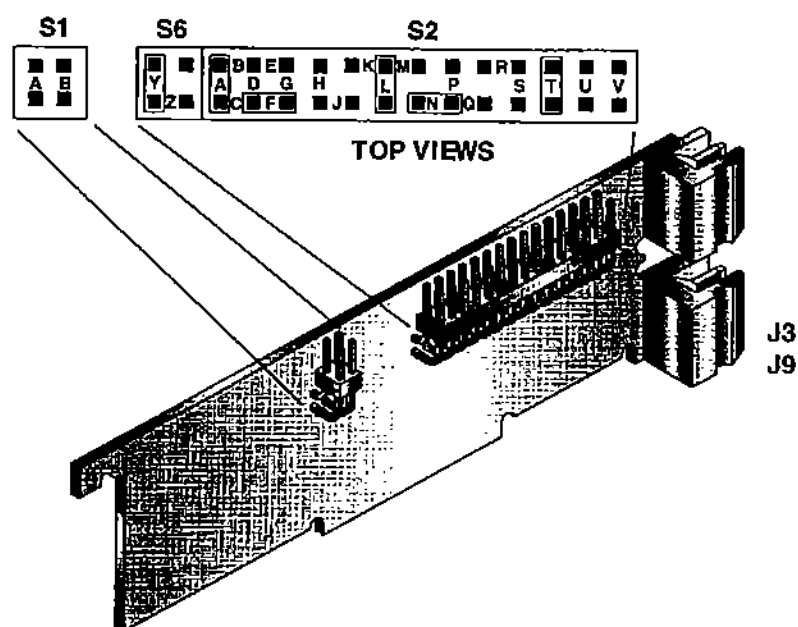
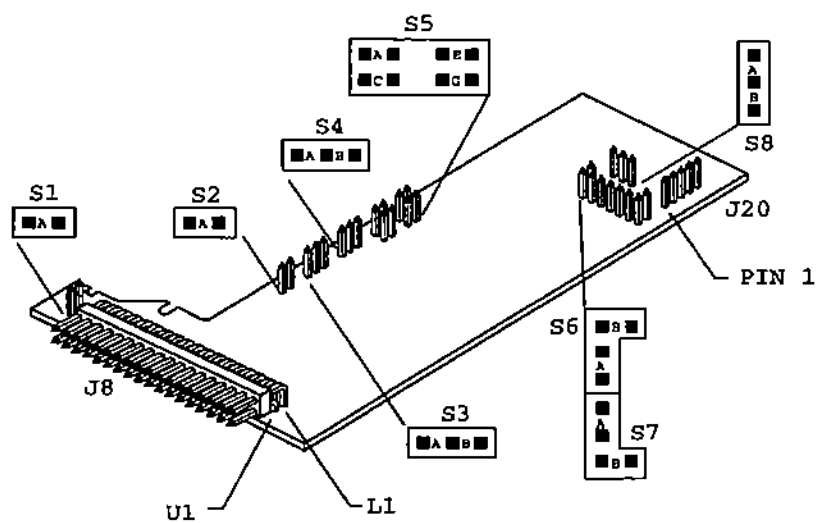

Figure 5-5. Signal Input Board
Figure 5-7. BCD Option Board
Figures 5-5 through 5-11 show the layout of the seven (7) printed circuit boards with respective jumper blocks, where applicable, used in the meter. Figures 5-7 through 5-11 show the optional boards.